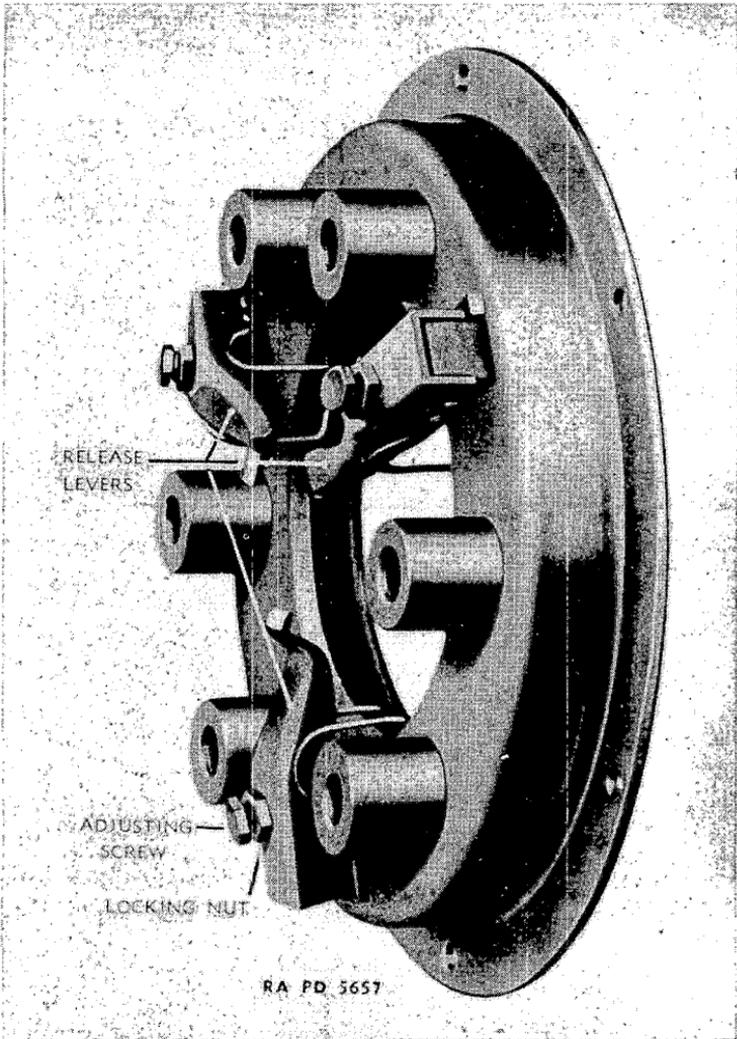

FIGURE 20.—Clutch adjustment.
**53. Clutch.**—*a. General.*—A single plate, dry disk clutch is mounted in the forward portion of the torque tube housing. The clutch is of the spring loaded type. It may be adjusted to provide for some free movement of the clutch pedal before the clutch begins to disengage (fig. 20).